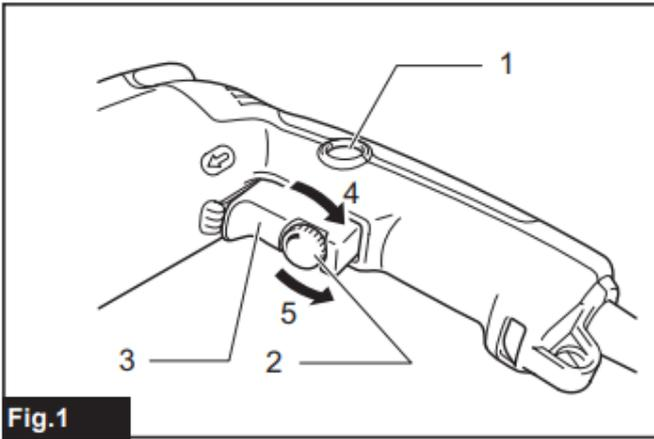

Fig.1
- Fig.1: 1. Lock button 2. Speed control screw